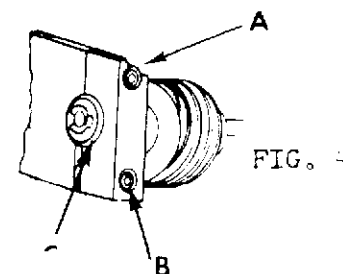

FIG. 4
REMEDY: Tighten top screw (A) securely. Tighten screw (B) just tight enough so that the bearing will not move. Do not overtighten. The best method to check this is to insert shuttle adjustment wrench at point (C), and with excessive pressure the bearing should not move. If it does, tighten Screw (B) until the bearing doesn't move. (Refer to Fig. 4)